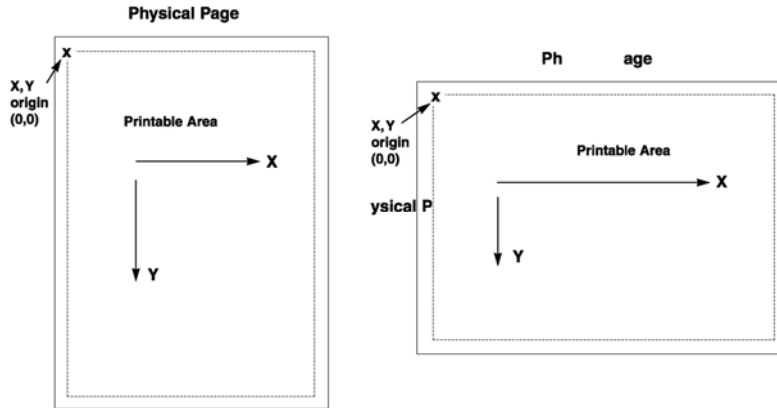

Figure 1
1. All xy values (start, end, center, increment) are measured in n/300 of an inch. The origin of the xy coordinate system is the top left-hand corner of the printable area of the page (see Figure 1).
2. To determine the printable area of the paper, we printed a box using 0;0 as the x;y -start coordinates. This was done by typing `-GB1;0;0;300;300;50` on the screen and sending it to the printer. The top left corner of the printed box marks the top left corner of the printable area of the page. For reference, we drew the printable area on the blank sheet of paper. All references to distances are made in respect to the printable page, not the actual physical page. Refer to Figure 1.